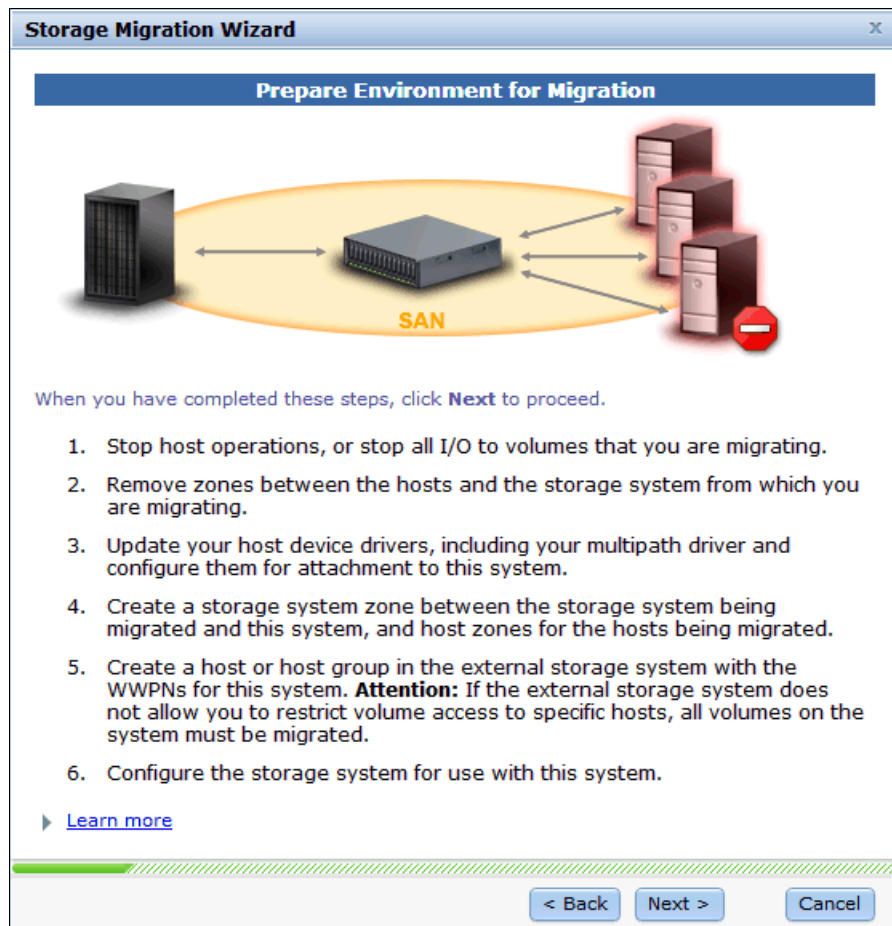

Figure 7-11 Storage Migration Wizard step 2 - Prepare the environment for migration
2. Step 2 of the Storage Migration Wizard is to prepare the environment for migration, and click **Next** (Figure 7-11).